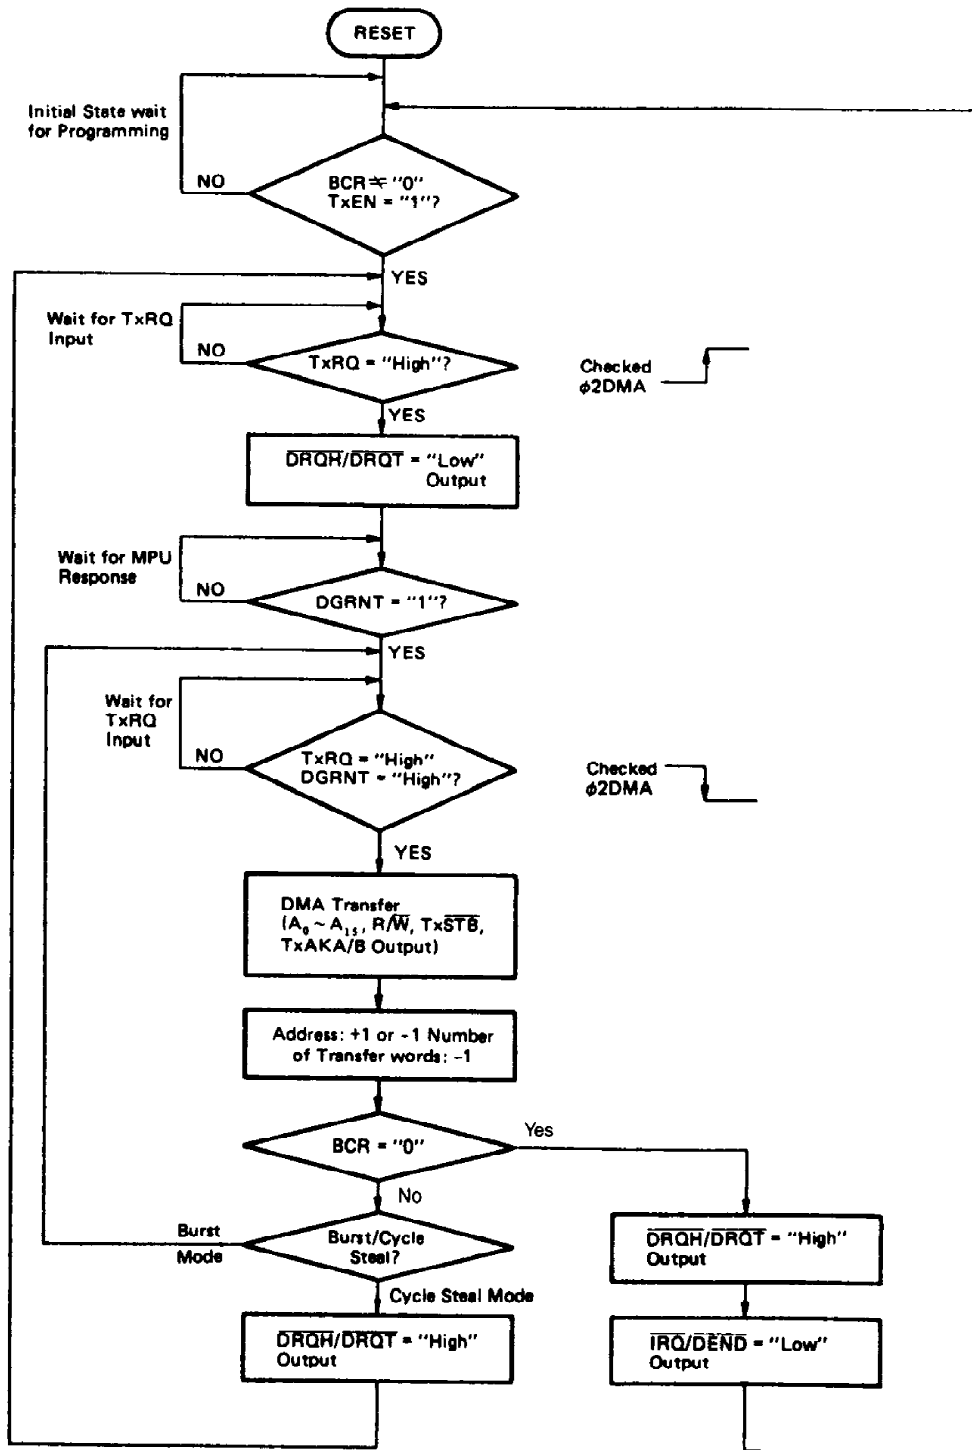
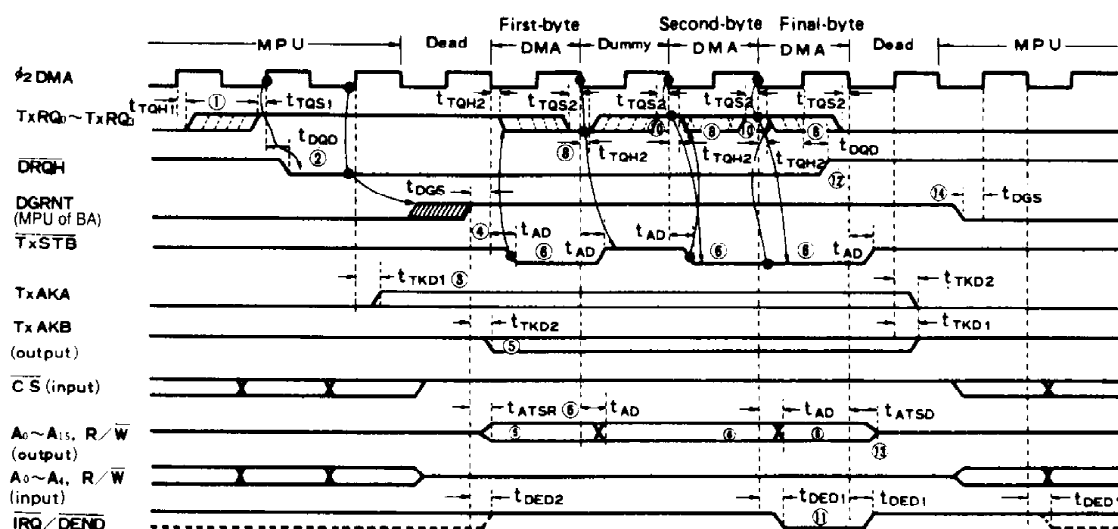
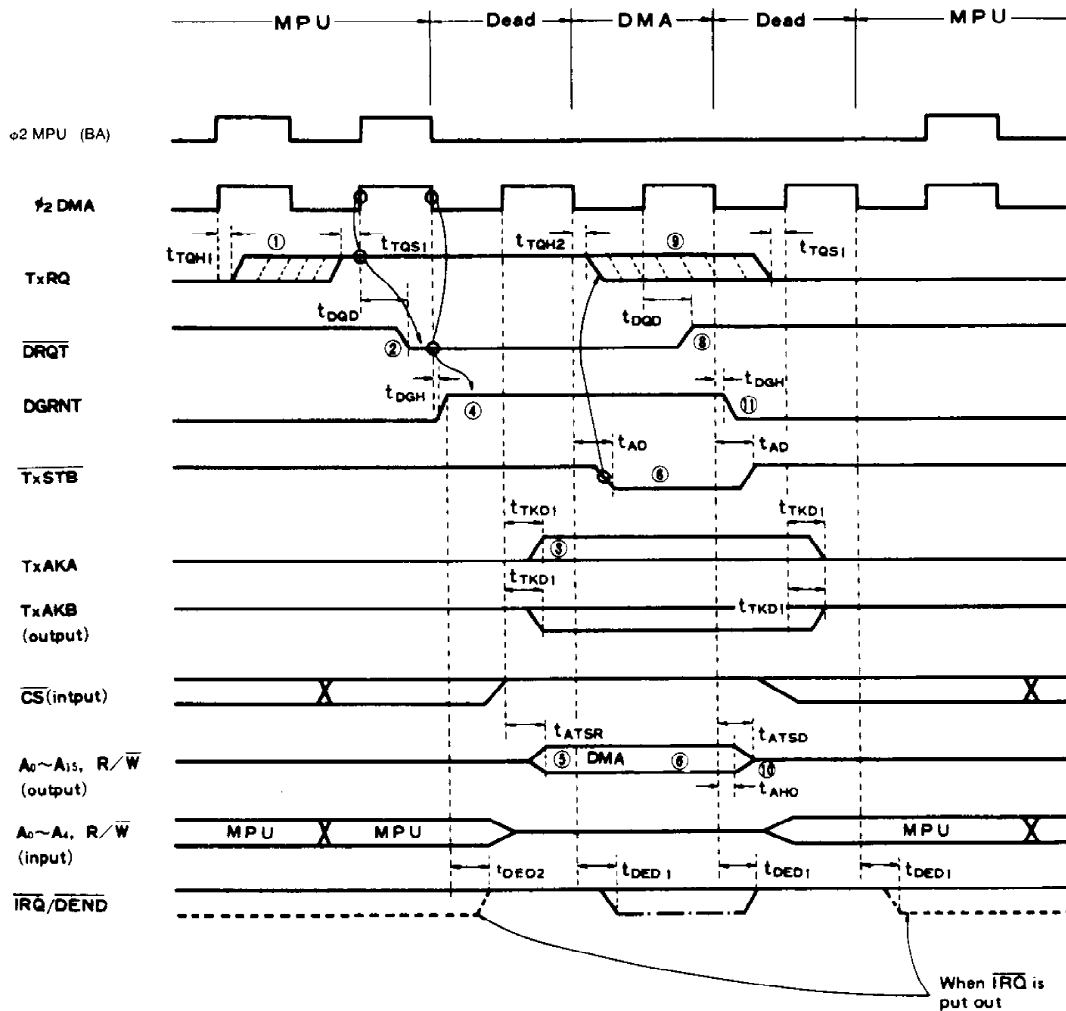

Figure 13 Flow Chart of DMAC Operation
Figure 16 HALT Burst Mode
Figure 17 TSC Cycle Steal Mode
Its timing chart and flow chart are shown in Fig. 16 and Fig. 13 respectively. Procedure of transfer is the following (No. ① ~ ⑭ in Fig. 16 correspond to the following items).
- ① TxRQ input is checked at the rising edge of ϕ_2 DMA. When it is at "High" level, it gets into the following operation.
- ② $\overline{DRQH}$ ="Low" level is given and MPU is requested to stop its operation.
- ③ TxAKA is driven.
- ④ MPU stops and DMAC waits for DGRNT rising "High" level.
- ⑤ When DGRNT rises "High" level, DMAC drives TxAKB, $A_0 \sim A_{15}$, and R/W lines.
- ⑥ TxSTB is sent out to perform DMA transfer.
- ⑦ Address is incremented or decremented by one and number of transfer words is decremented by one.
- ⑧ TxRQ falls to "Low" level.
- ⑨ When number of transfer words is 0, from ⑪ to ⑭ operations are performed.
- ⑩ When BCR is not "0", TxRQ is checked at the falling edge of ϕ_2 DMA. When TxRQ is at "High" level, DMA transfer is performed through ⑥ ~ ⑧ again. When TxRQ is not at "High" level, DMAC waits for becoming "High" level.
In burst mode, TxRQ should be also, in principle, set to "High" when I/O request is asserted, and reset to "Low" when TxSTB goes to "Low". If TxRQ is asserted as level input without being reset, DMA transfer is performed at all cycles of ϕ_2 DMA since TxRQ is always at "High" level at the falling edge of ϕ_2 DMA. Its example is shown in the second-byte and the third-byte transfer in Fig. 16.
Its timing chart and flow chart are shown in Fig. 17 and Fig. 13 respectively.